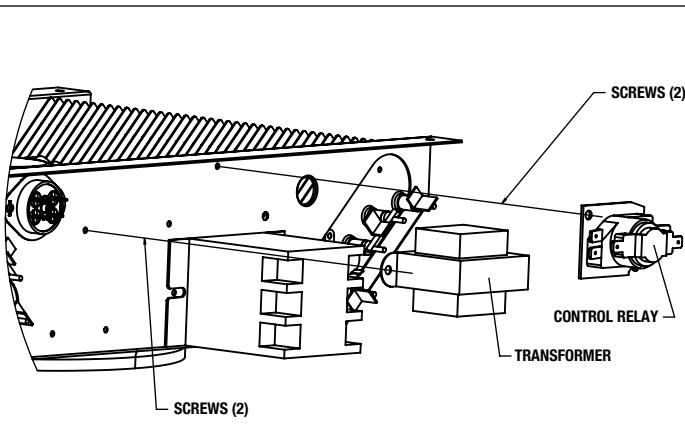

Figure 7
1. Install the Transformer and Relay as shown in Figure 7.
1. Install the Transformer and Relay (FIR-TR4-Z OR FIR-TR7-Z) as shown in Figure 7.